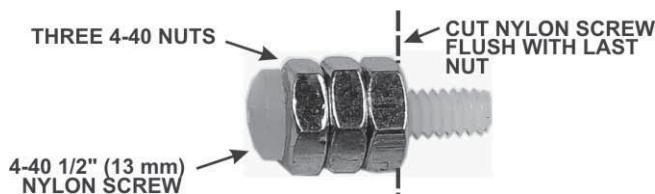
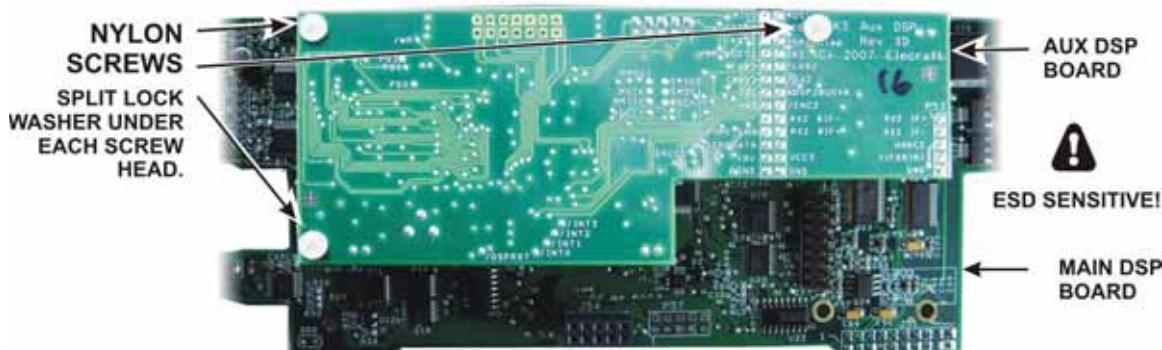

Figure 51. Preparing the Nylon Screw.
Figure 53. Mating the Main and Auxiliary DSP Boards.
- Screw three 4-40 nuts onto the 1/2" (13 mm) 4-40 nylon screw as shown in Figure 51.
Plug the aux DSP board into the main DSP board by mating P52 and P53 on the aux DSP board (at the narrow end) with J52 and J53 on the main DSP board. When fully seated, the connectors should be fully engaged so that the pins do not show and the aux DSP board should rest against the top of the standoffs with the holes in the board aligned for the screws (See Figure 53). Note that a two-row 10-pin connector at the top of the aux DSP board does not mate with anything on the main DSP board. That is normal. Attach the boards with three 4-40 1/4" (6.4 mm) **nylon** screws or the nylon screws you trimmed to length earlier (see Figure 51). Place a split lock washer under each screw head. Do not place washers between the standoff and the pc board. **Be careful tightening the nylon screws. They are easily stripped!**